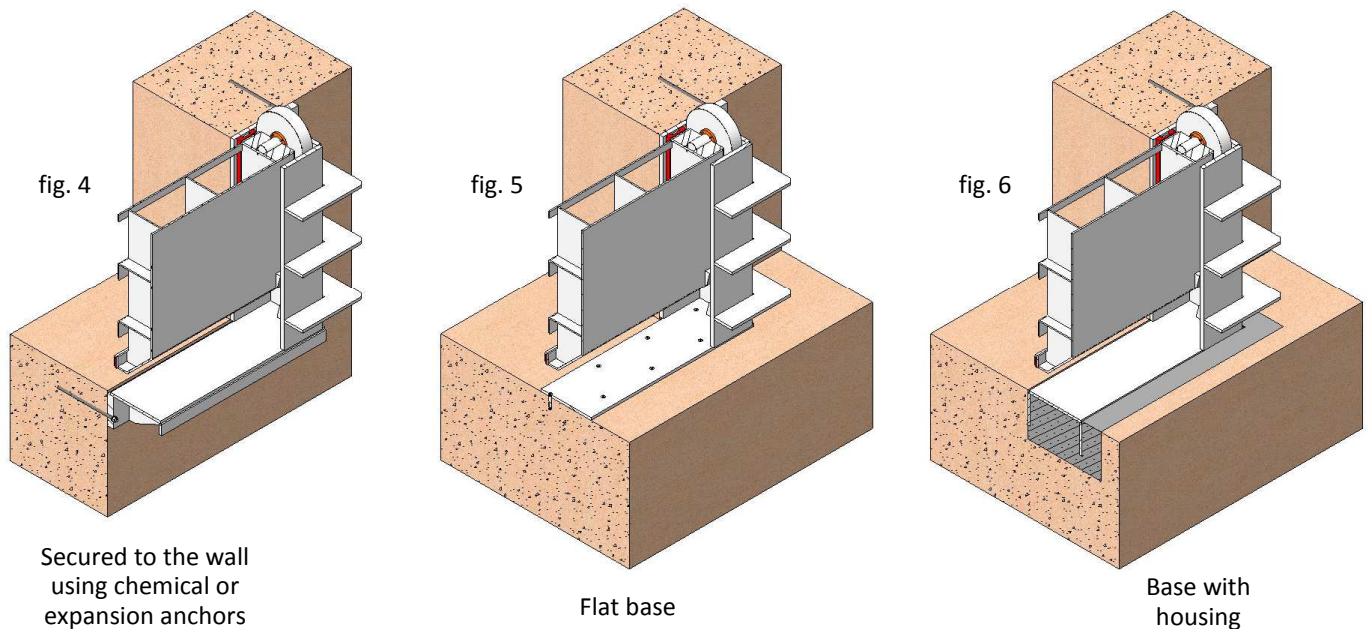

fig. 4
Another option is to assemble these penstocks on the wall, secured with expansion or chemical anchors (fig. 4), although there are other assembly options, as shown in figures fig. 5 and fig. 6.
- In order to mount the penstock using chemical or expansion anchors (fig. 4), follow these steps: